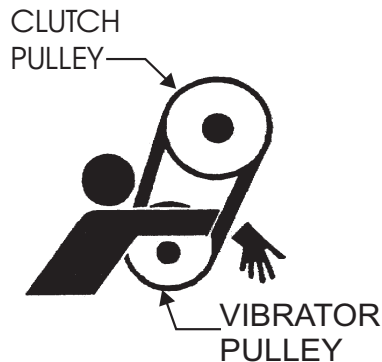

Figure 7. V-Belt Hazard
**NEVER** attempt to check the V-belt with the engine running. Severe injury can occur if your hand (Figure 7) gets caught between the V-belt and the clutch. Always use safety gloves.